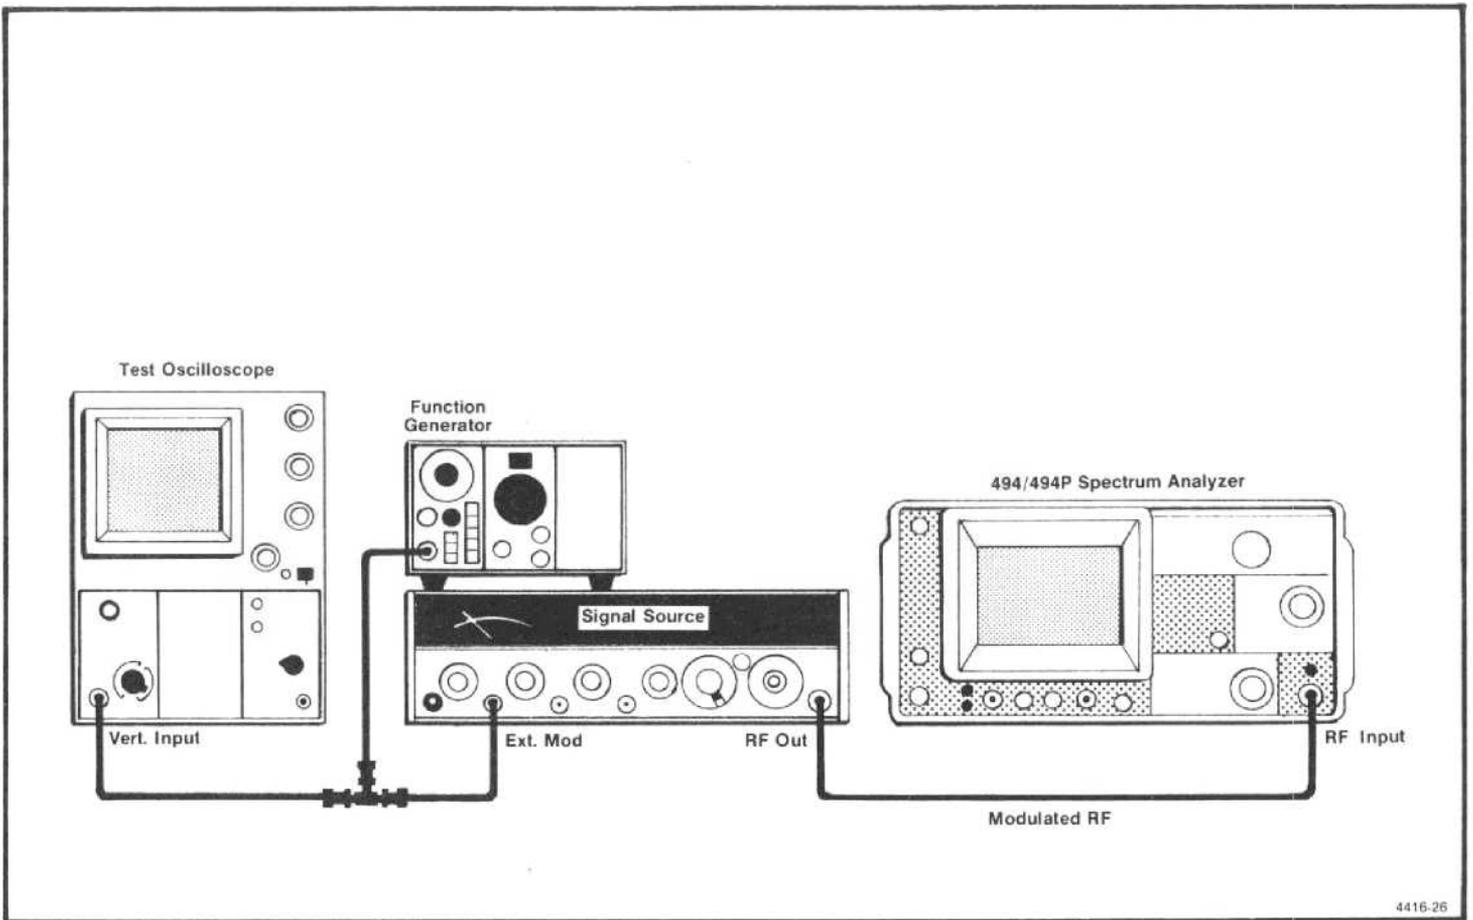

Figure 4-20. Equipment setup for checking internal trigger characteristics.
a. Equipment setup is shown in Figure 4-20. Apply 100 MHz at -30 dBm from a Signal Generator, that is modulated by the output of a Sine-Wave Generator, to the RF INPUT. Monitor the output of the Sine-Wave Generator with a test Oscilloscope.